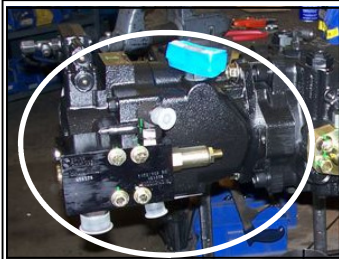

FIG. 40-1
**HYDRAULIC PUMPS**— The hydraulic pumps (fig. 40-1) circulate the hydraulic oil throughout the necessary systems and back through a cooler before returning it to the reservoir.